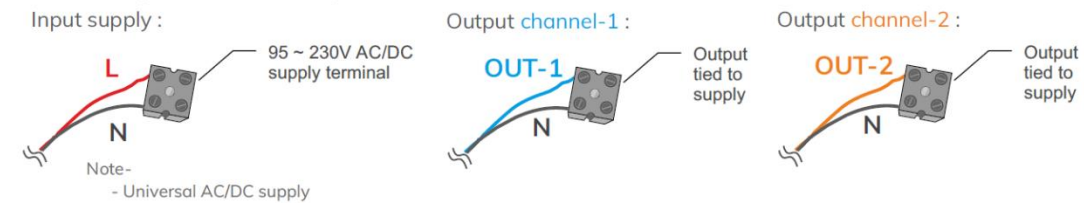

Figure 5 – Supply & channel output terminals
- Devices can be connected directly to output channels using OUTx & N (neutral) terminals (see figure 5)